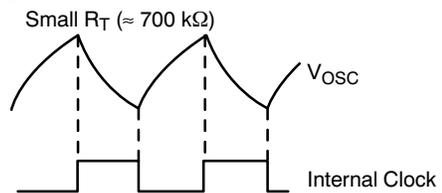

Figure 7. Oscillator Timing Network and Parameters
**ELECTRICAL CHARACTERISTICS** ( $-40^{\circ}\text{C} \leq T_A \leq 85^{\circ}\text{C}$ ,  $R_T = 680\text{ k}\Omega$ ,  $C_T = 0.022\text{ }\mu\text{F}$  for Triangular Mode,  $V_{CC} = 15\text{ V}$  (Note 3),  $R_T = 10\text{ k}\Omega$ ,  $C_T = 3.3\text{ nF}$  for Sawtooth Mode (see Figure 7); unless otherwise specified.)